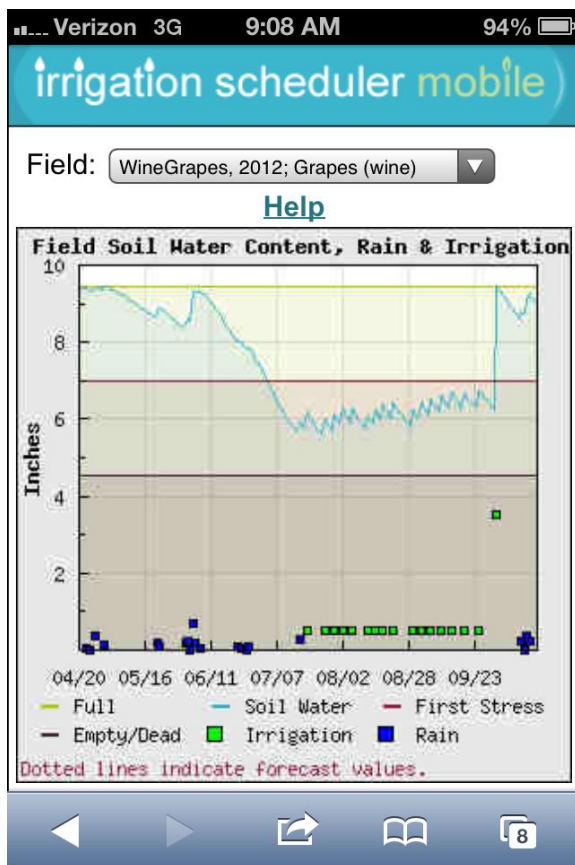

Figure 33. Water stressing wine grapes. Irrigation after harvest was done to restore the health of the vines.
**Deliberate Water Stress:** With some crops, such as wine grapes, it is desirable to deliberately cause water stress to get the desired crop quality results. Recall that the plant will see approximately linearly increasing water stress from barely any at the red, First Stress (MAD) line to the black, Empty/Dead (Permanent Wilting Point) line (see Figure 8). Deliberately causing stress is done by purposefully allowing the soil water to dry down below the First Stress line (Figure 33).